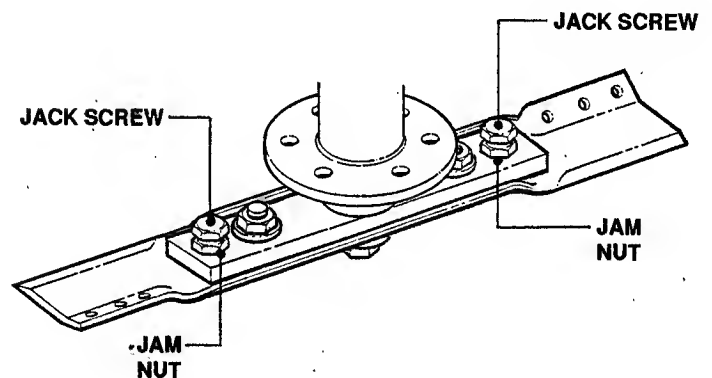

FIGURE 4.9
- (b) Adjust jack screws "IN" or "OUT" until blade tip measurements are within 1/16" of each other and blade tips are 3/8" away from deck lip. See Figure 4.9.